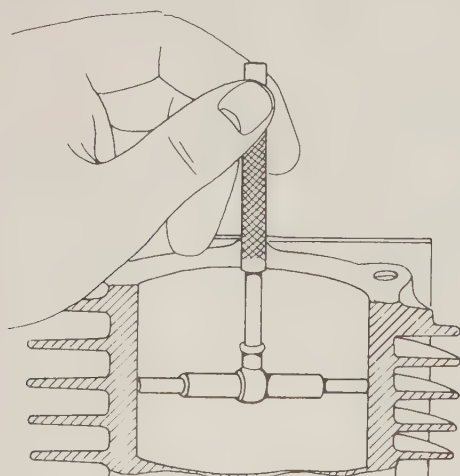

FIG. 7-25 Using a telescoping gauge to measure the diameter of a cylinder bore.
**○7-10 TELESCOPE GAUGES** Telescope gauges are used for measuring the diameter of holes up to about 6 inches [152.4 mm] in diameter. A typical telescope gauge is shown in Fig. 7-25. A telescope gauge is a T-shaped measuring instrument that uses the
Insert the gauge into the cylinder, as shown in Figure 7-25. Loosen the nut. A light spring inside the arms will push the adjustable end out so that the gauge will adjust to fit the cylinder. Make sure the telescoping end is at right angles to the cylinder wall. Then tighten the nut and withdraw the gauge. To find the diameter of the cylinder, measure the telescope gauge setting with a micrometer.